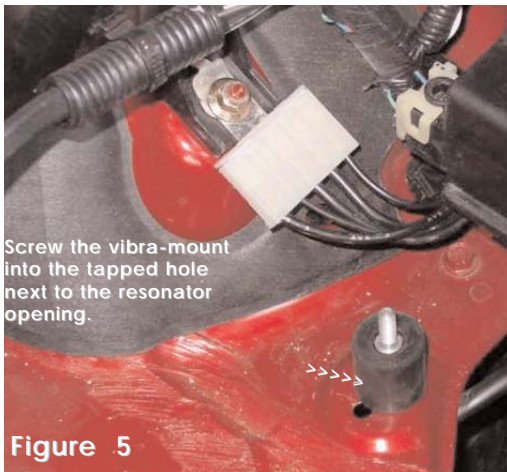

Figure 5
- 4- Screw the vibra-mount into the pre-tapped hole near the resonator opening. (See fig. 5)